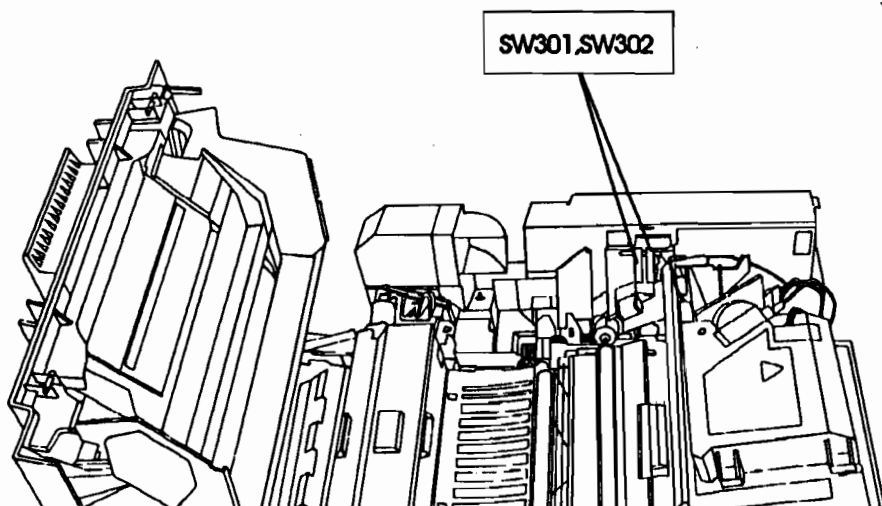

Figure 7-24. EP-S Cartridge Sensitivity Switches
The 14 NO EP CART installed message occurs when neither of the drum sensitivity switches (SW301 and SW302) on the Paper Control PCA is activated. When the EP-S Cartridge is installed and the Top Cover Assembly is closed, the EP-S Cartridge drum sensitivity tabs contact microswitches SW301 and SW302 on the Paper Control PCA (see Figure 7-24). The input from these switches is fed directly to the submicroprocessor on the DC Controller PCA. This microprocessor uses these signals to regulate laser power output.
3. Press switch SW301 (see Figure 7-24). The display should change from 14 NO EP CART to 00 READY.